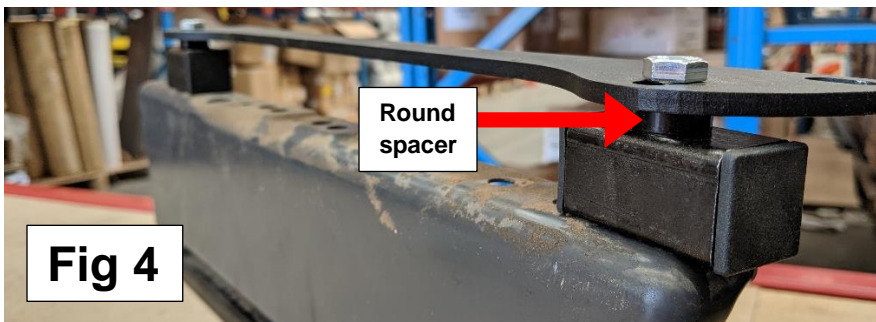

**Fig 2**
4. Below in Figure 2 is a passenger side XR seat, note the orientation and offset of the brackets. These brackets will be mirror-imaged when you install them on the drivers side seat.